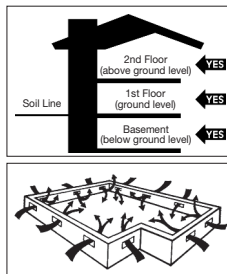

Figure 1
- Crawl spaces must be a minimum of 18" (46 cm) from the ground to the underside of the joists. A ground cover of 6–20 mil black polyethylene film is essential as a vapor barrier with joints lapped 6" (15 cm) and sealed with moisture-resistant tape. The crawl space should have perimeter venting equal to a minimum of 1.5% of the crawl space square footage. These vents should be properly located to foster cross ventilation (Figure 1).